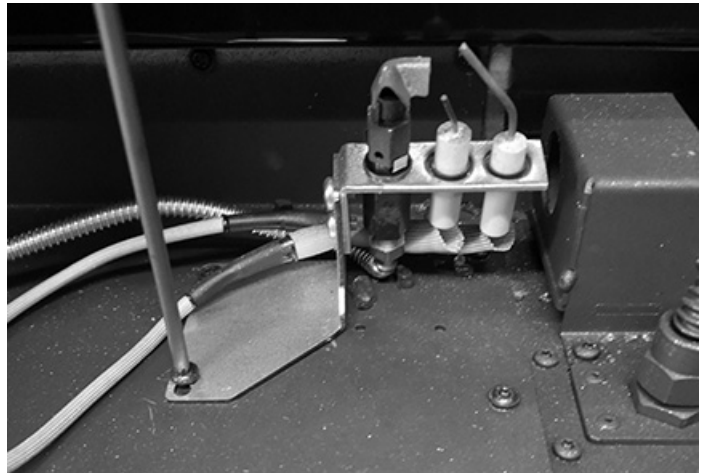

Figure 61: Remove the screws for the Pilot Assembly.
7. Remove the screws securing the pilot assembly to the access cover and bend the pilot up to the left and clear of the access cover. Figure 61